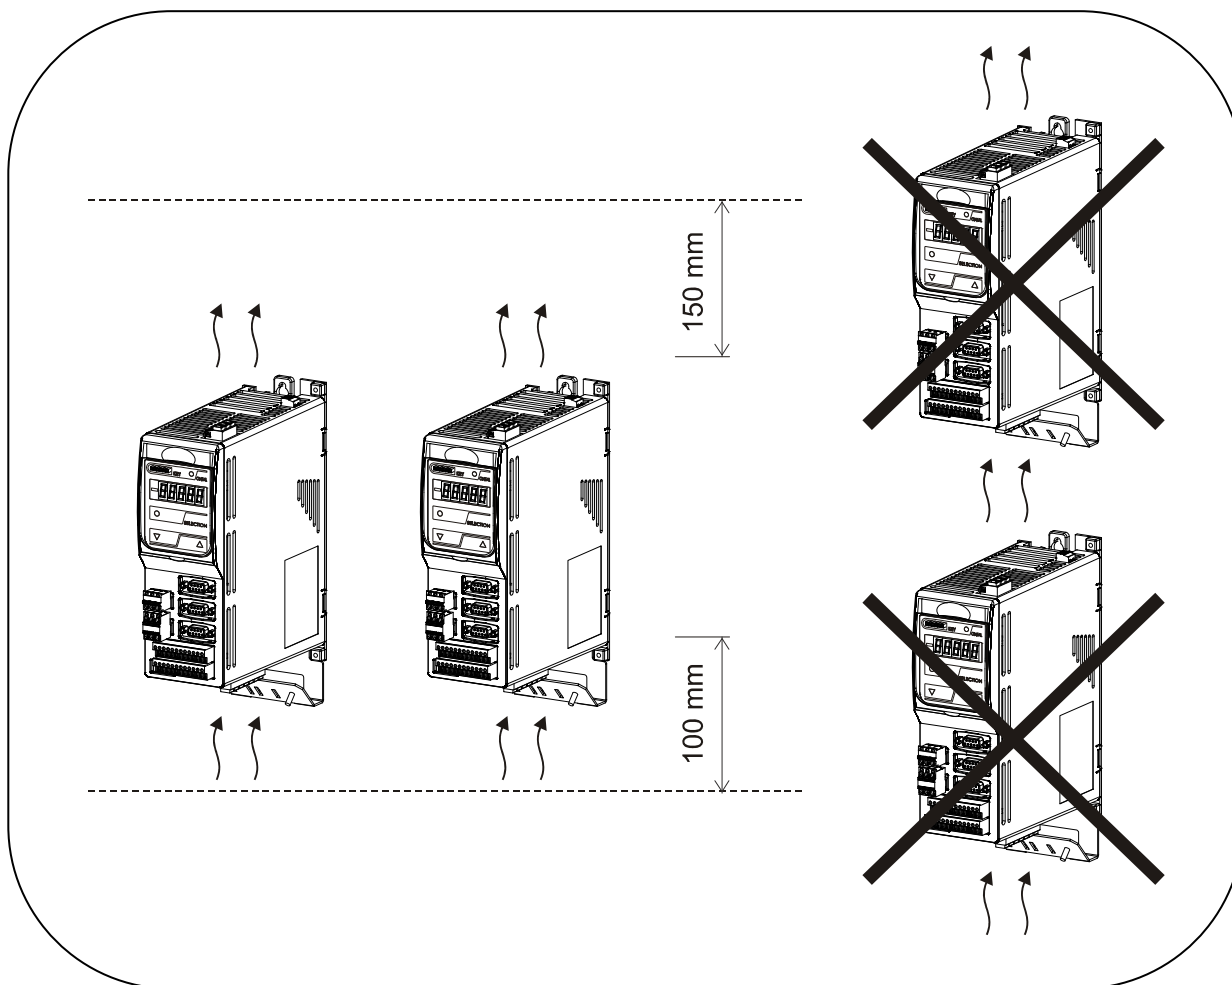

FIG. 5 (Installation)
PLACE OF USE	<p>Closed, covered, sufficiently lit environment with temperature and humidity values within the ranges indicated in TAB. 3C and complying with the regulations on safety and health at the work place in force in the Country where the drive is used. MiniOPD EXP must be installed on a wall capable of ensuring stability in relation to its overall dimensions (see FIG. 3B) and weight (see TAB. 2); observe minimum clearances shown in FIG. 5.</p> <p>N.B.: PRESENCE OF WATER OR HUMIDITY ABOVE 90% IN THE PLACE OF USE OF THE MINIOPD EXP IS ABSOLUTELY FORBIDDEN, AS IT MAY ENHANCE OR INCREASE THE RISK OF ACCIDENTAL ELECTRIC SHOCK AND/OR DAMAGE TO THE DRIVE ITSELF.</p>
- 1) Position the **MiniOPD EXP** observing the minimum clearances around it (**see FIG. 5**);
IF SEVERAL MINIOPD DRIVES ARE TO BE INSTALLED, INSTALL THEM AS ILLUSTRATED IN FIG. 5 TO ENSURE PROPER VENTILATION AND PREVENT THE COOLING AIR FLOW FROM ONE DRIVE FROM INTERFERING WITH THE OTHER DRIVE.